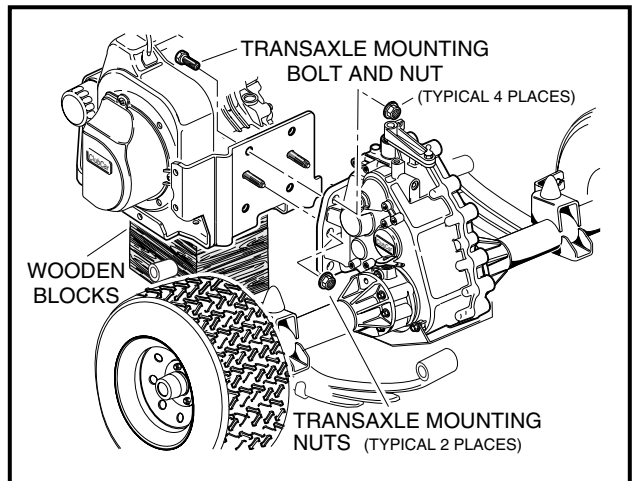

Figure 16-38 Transaxle Mounting
- 22.1. Remove four transaxle mounting bolts (one at each corner of the transaxle mounting plate) as shown (Figure 16-38, Page 16-15).
- 22.2. Remove two middle transaxle mounting nuts as shown (Figure 16-38, Page 16-15).